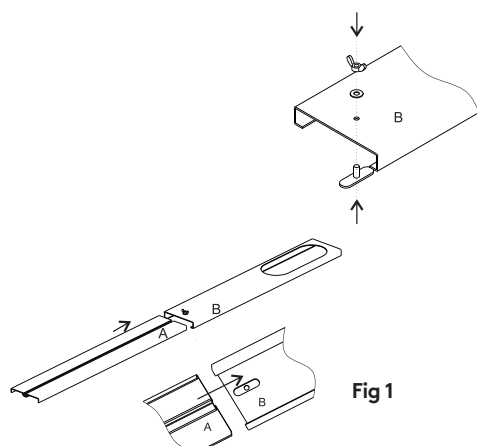

Fig 1
1. Insert Panel A into Panel B in the direction indicated by the arrow in Fig 1